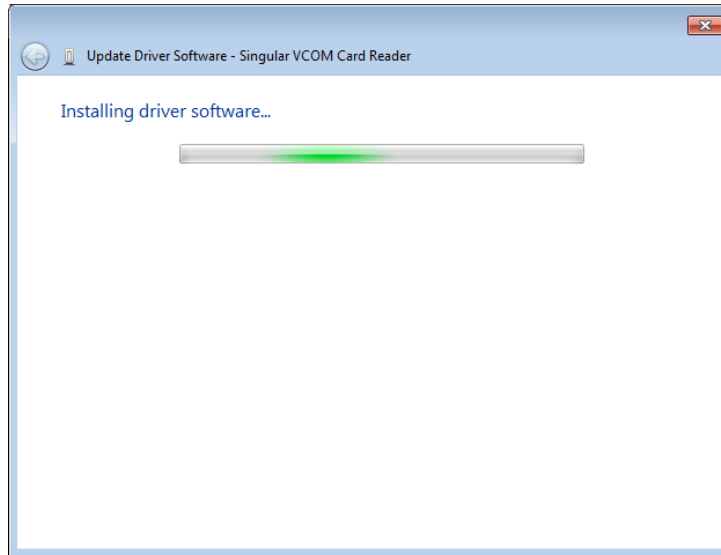

Figure 5-23: Installing Driver Window
Step 4: The following window (**Figure 5-23**) appears as the driver is installed.